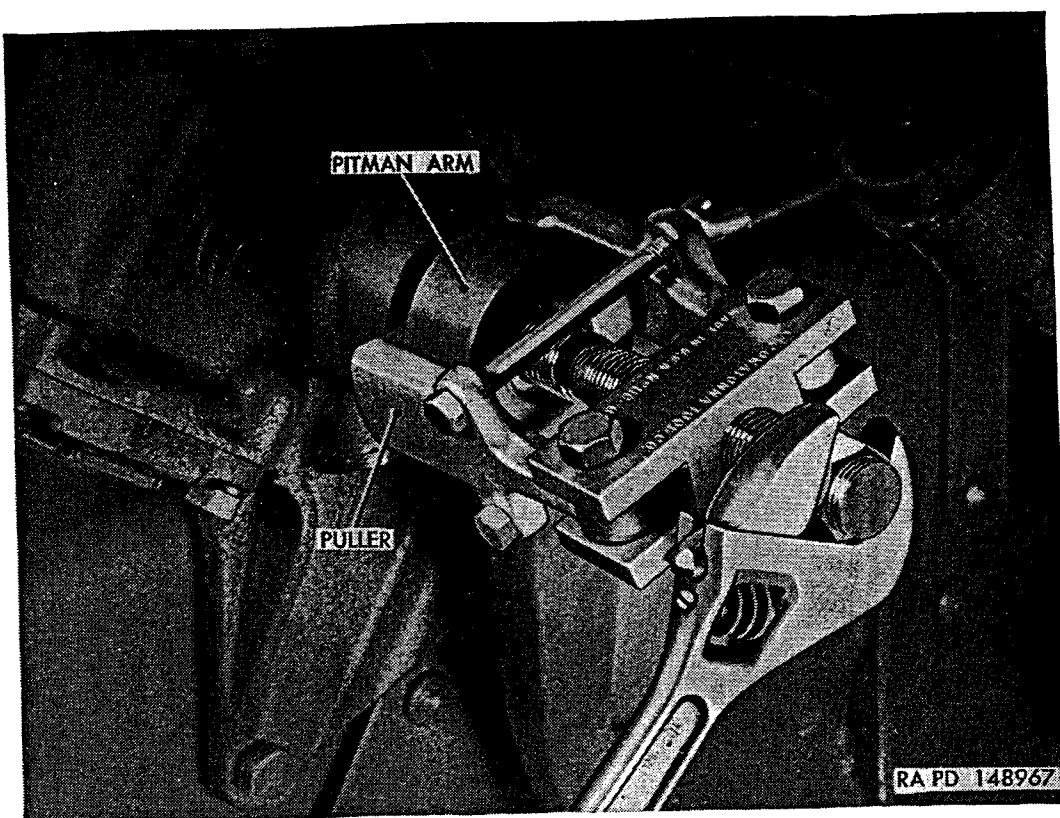
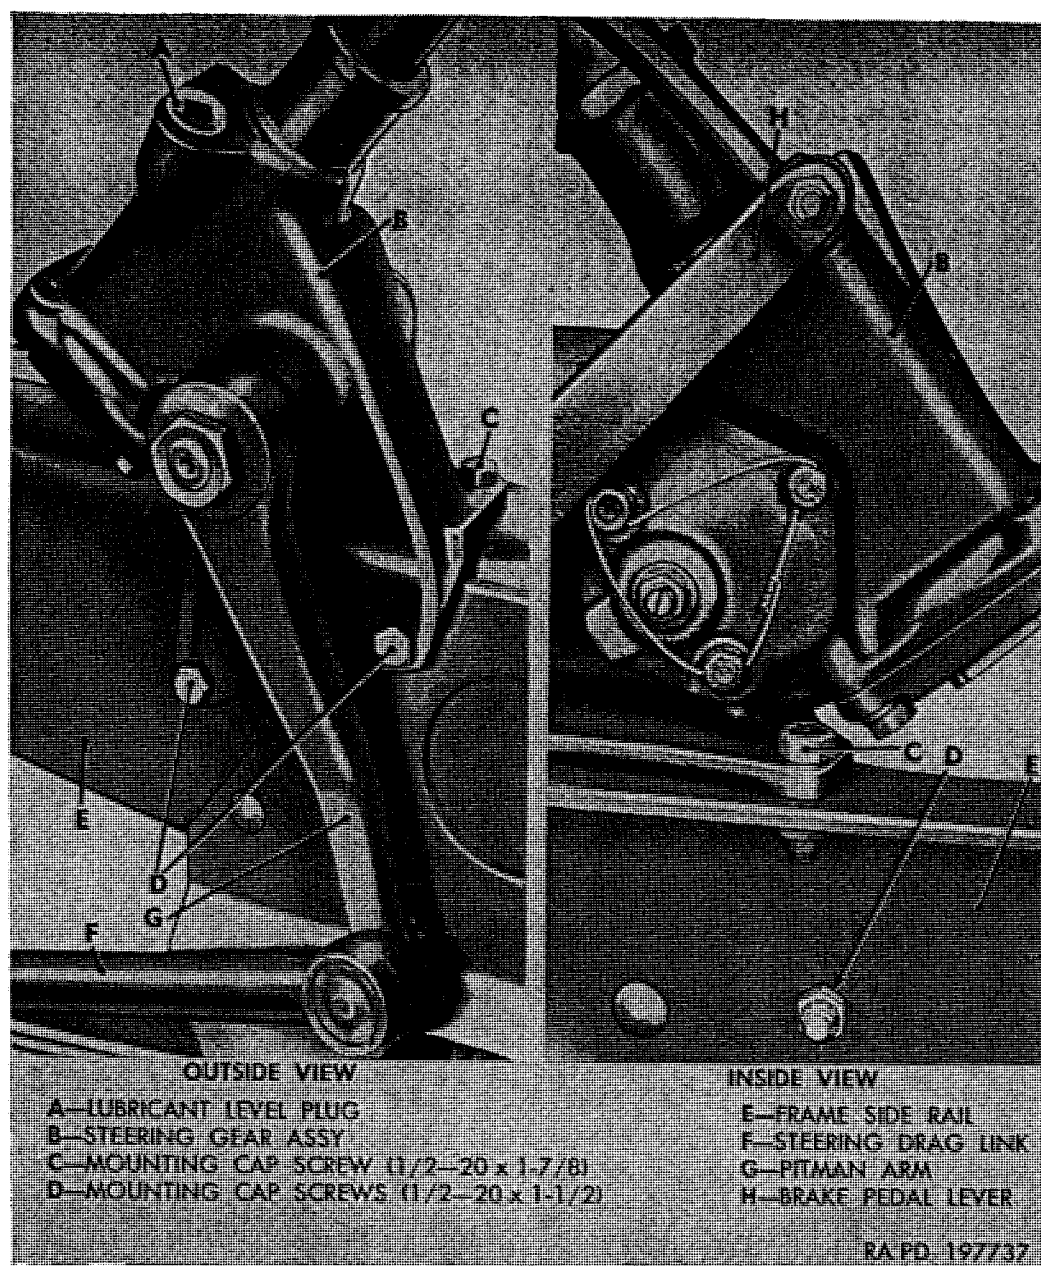

Figure 280. Removing pitman arm.
Figure 283. Steering gear mounted to frame.
(fig. 280)
- (1) Remove left fender and skirt assembly (par. 304b).
- (2) Remove and discard cotter pin from slotted hex nut on steering drag link ball stud. Remove stud nut; then drive ball stud out of pitman arm.
- (3) Remove nut and lockwasher which retains arm or pitman shaft. Use a suitable puller to remove arm from shaft in manner shown in figure 280.
- (4) Remove four cap screws (C and D, fig. 283) and nuts which mount steering gear to frame side member.
- (5) In cab, pull steering gear back until it clears cowl bracket; then pull steering gear straight up through floor and out through left door.
- (6) Remove nut and lockwasher which retains pitman arm on pitman shaft. Use a suitable puller (fig. 280) to remove arm from shaft.
- (1) Position pitman arm on pitman arm shaft, matching blank serrations on shaft with blank serrations in arm.
- (2) Install $\frac{7}{8}$ -inch lockwasher and nut on pitman shaft; then tighten nut to 115 to 155 pound-feet torque.
- (3) Guide steering gear and pitman arm assembly through opening in cab floor inside cab.
- (4) Position steering gear on frame side member; then install three $\frac{1}{2}$ -20 x $1\frac{1}{2}$ cap screws (D, fig. 283) and one $\frac{1}{2}$ -20 x $1\frac{7}{8}$ cap screw (C, fig. 283) with four $\frac{1}{2}$ -30 safety nuts. Tighten nuts to 48 to 64 pound-feet torque.